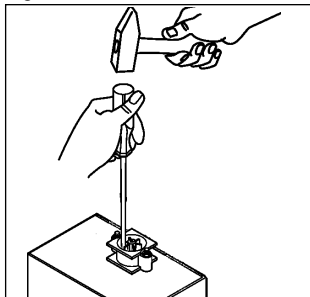

Fig. 9
2. Using a screw driver or the like, pierce the opening for the cable connection (fig. 9).